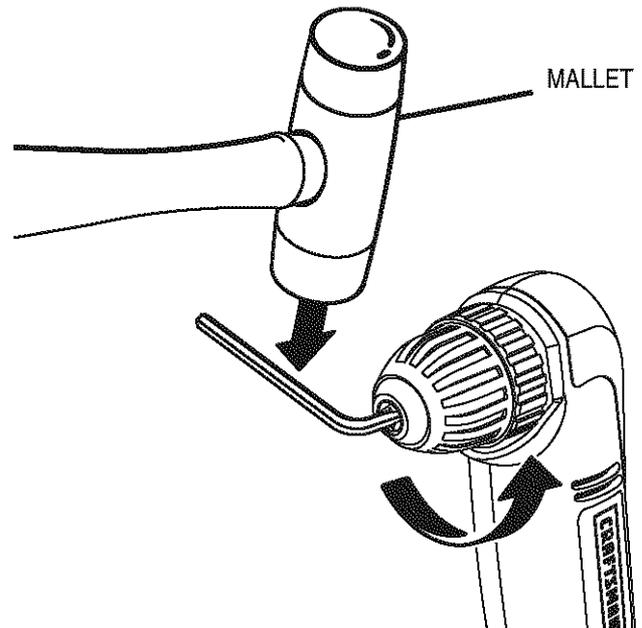

Fig. 11
- Insert the hex key in chuck and tighten the chuck jaws securely. Tap sharply with a mallet in a counterclockwise direction. This will loosen the chuck on the spindle. It can now be unscrewed by hand. See Figure 11.